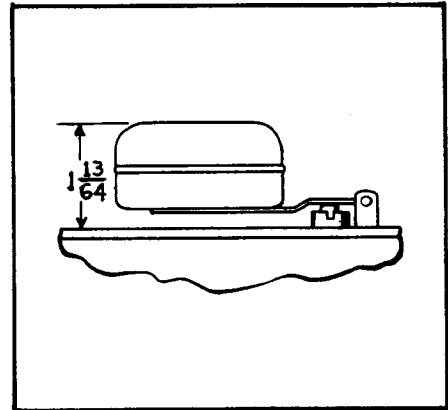

Fig. 123 Float Adjustment
(1) Install a new choke shaft seal (Item 9) (lip side out) and retainer (Item 8).
(2) Attach the choke bracket (Item 13) with lockwashers and screws. Make sure the bracket is aligned to the match marks made at the time of disassembly.
(3) Insert the blank end of the choke shaft (Item 6) into the choke shaft hole and rotate the shaft so the flat side is out. Attach the choke plate loosely with its screws. Close the choke. Align the choke plate for best closing. Tighten the screws.
(4) Assemble the choke lever to the choke shaft with a lockwasher (Item 3) and nut (Item 2). Align the lever to the match marks made during disassembly. Tighten the nut.
(5) Install a new throttle shaft seal (Item 17) into the retainer (Item 15) with the lip of the seal in the open side of the retainer.
(6) Press the seal and retainer into the throttle shaft hole until the outer face of the retainer is flush with the shaft boss. Slight tapping with a light hammer may be required. Repeat at both sides of the throttle body.
(7) Install the throttle shaft and lever assembly (Item 24) with a slight twisting motion of the shaft to ease the shaft through the seals.
(8) Attach the throttle plate (Item 21) to the throttle shaft, leaving the screws loose. Close the throttle and align the plate for best closing. Tighten the screws.
(9) With the throttle body inverted, install a new fuel valve seat (Item 31) with a new gasket. Use a wide blade screwdriver or seat wrench.
(10) Insert the cone end of the fuel valve needle in the fuel valve seat. Place the float and lever assembly (Item 33) in position on the throttle body. Align the hole in the float lever bushing with the holes in the axle bracket. Install the float axle.
(11) With the throttle body inverted and the float lever holding the needle valve on its seat, check the distance from the throttle body flange to the top of each float. This dimension should be 1-13/64" (Fig. 123).
(12) Install the idle adjusting needle (Item 18) and spring. Turn the needle IN lightly against its seat. Back the needle OUT 1-1/4 turns as a preliminary adjustment.
(13) Apply a light coating of lubricating oil to the shoulder end of the discharge tube and well assembly (Item 35) to hold the seal (Item 34) in place. Install the seal end of the assembly into the discharge port of the throttle body.